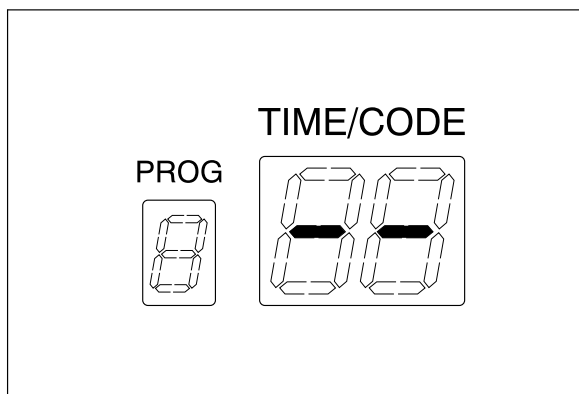

Figure 7.72
8. When the amount added is adequate, the buzzer beeps for three seconds. Stop adding the solution. At this time, the TIME/CODE display on the main panel will show [- -] indicating the end of the process (see Figure 7.72).